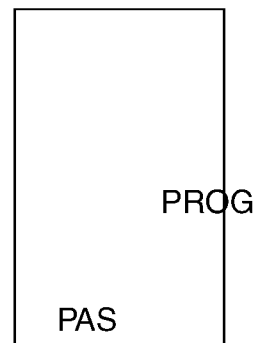

Figure-2.4 Password Frame.
4. Continue to press <Select> until the Password frame is displayed (Figure-2.4).